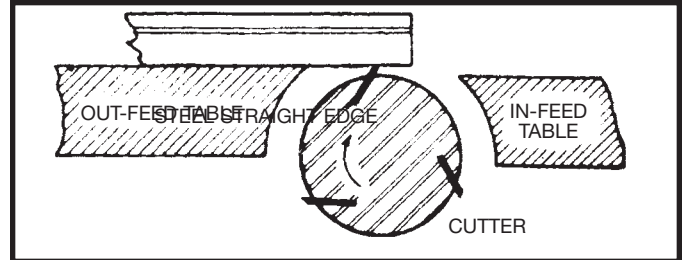

Fig. 40
3. Place a straight edge on the outfeed table, extending over the cutterhead as shown in Fig. 40.